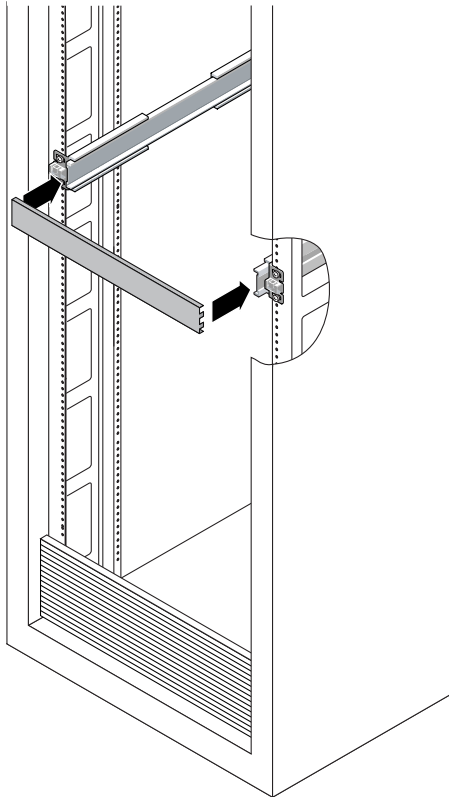

FIGURE 1-5 Setting the Rail Width
4. From the front of the rack, set the proper width of the rails with spacer. (See FIGURE 1-5.)